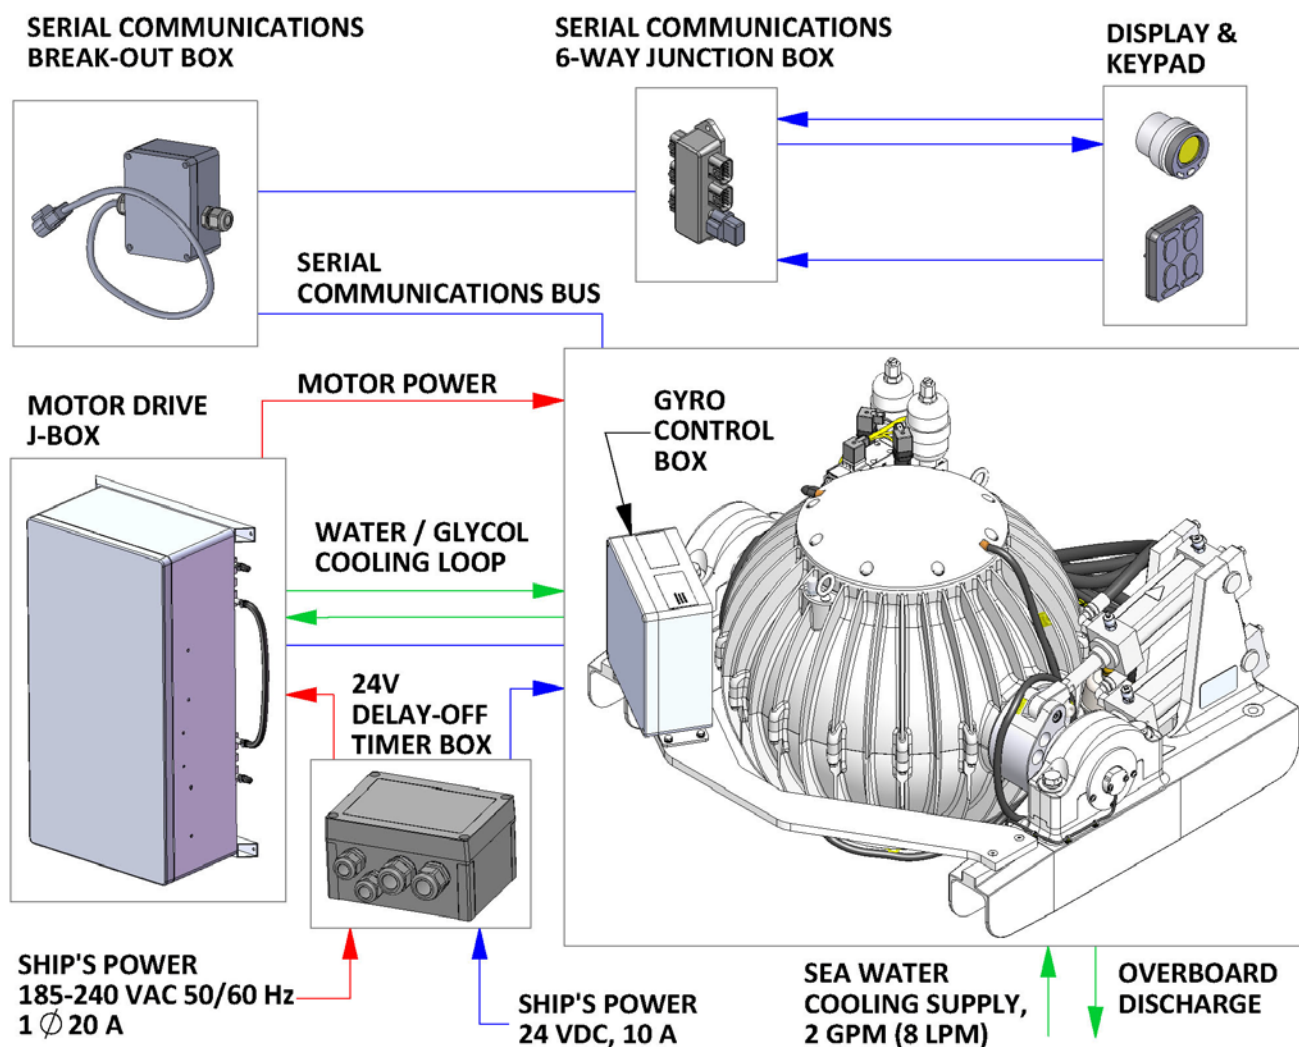

FIGURE 1 – MODEL 7000A GYRO STABILIZATION SYSTEM COMPONENTS
A Model 7000A Gyro consists of a gyro assembly (including control box), motor drive junction box, 24V delay-off timer box, serial communications boxes (2), and operator display and keypad. Figure 1 illustrates the interconnection of these components and their interface with the boat.